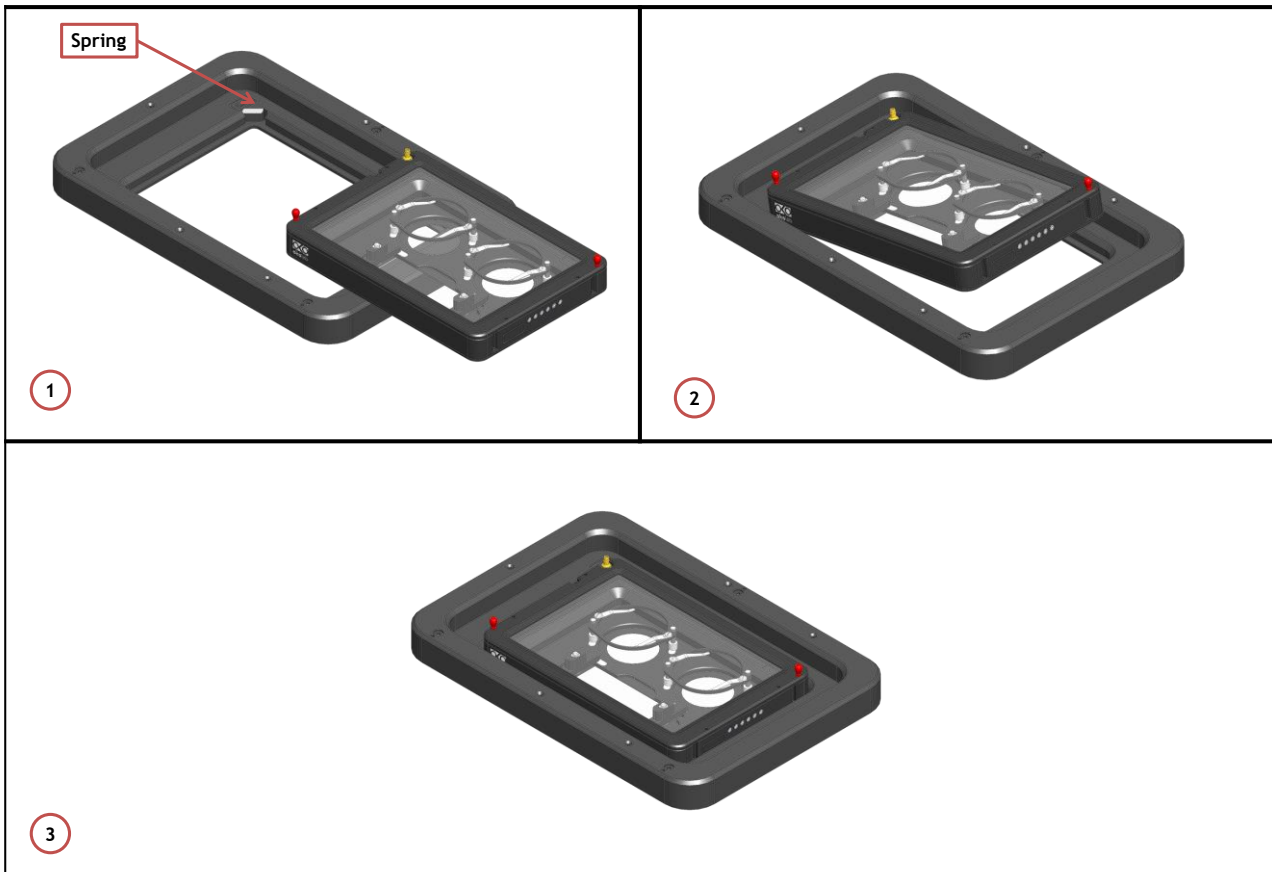

Figure 21. Connection of the Chamber with Z piezo Stage
H201-LUDL 96A602 fits on the Z piezo Stage without any screws. To fix the chamber on the stage, follow the steps shown in Figure 21.
1. Place the chamber on the stage (See Image 1 of Figure 21).
2. Incline the chamber and slide it in direction of the springs until it snaps into the housing. (See Image 2 of Figure 21).
3. Image 3 of Figure 21 shows the chamber fitted on the Z piezo Stage.